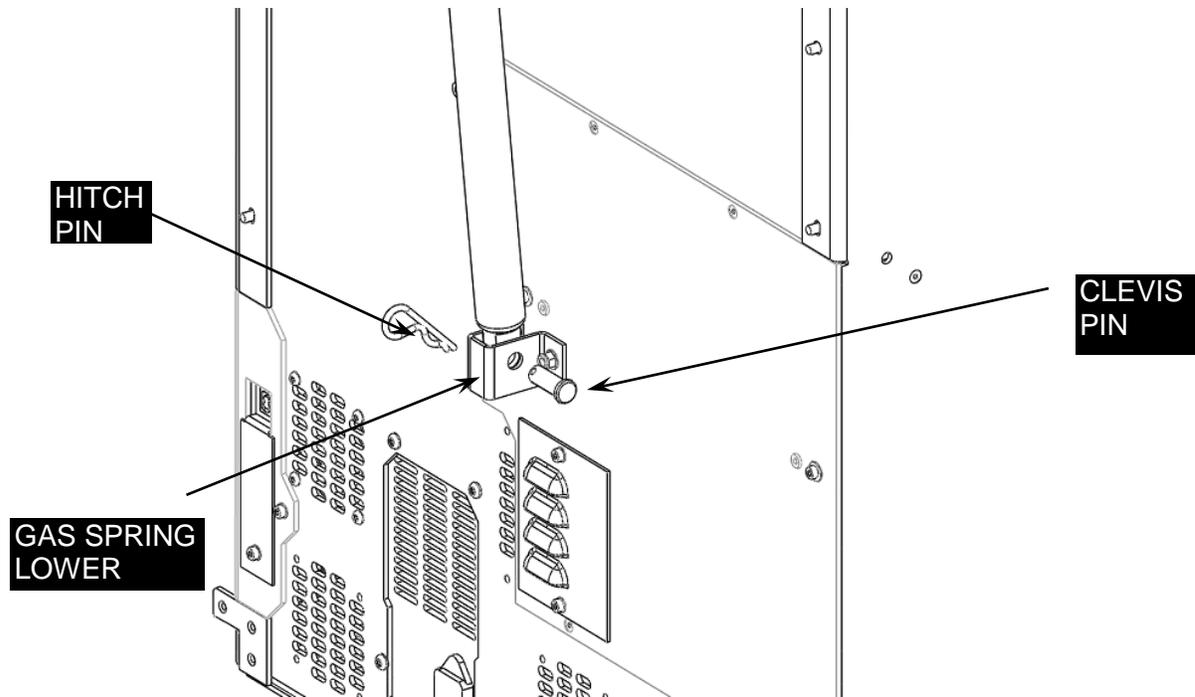

Figure 6-1: Location of Clevis Pin and Hitch Pin
1. With the Cover Open and **supported** remove the Hitch Pin and Clevis Pin from the bottom of the Gas Spring (Figure 6-1, 6-2).